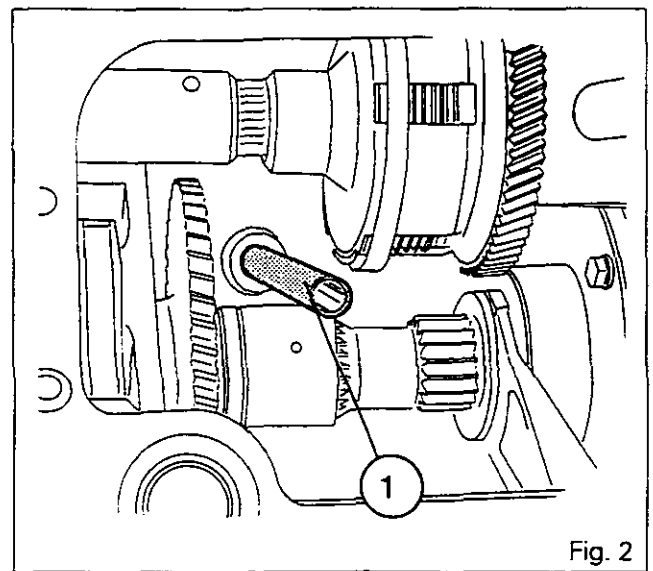

Fig. 2
12. Remove the screws (2).
14. Remove the transfer pipe (1) (Fig. 2)